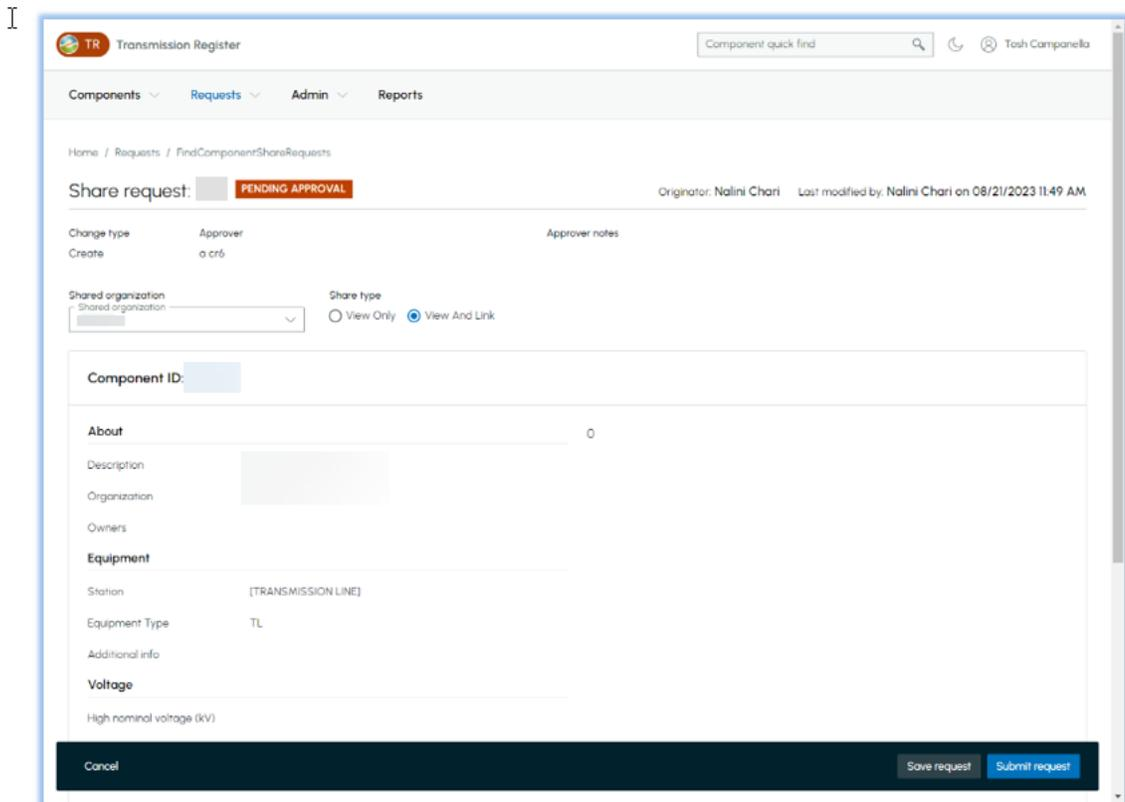
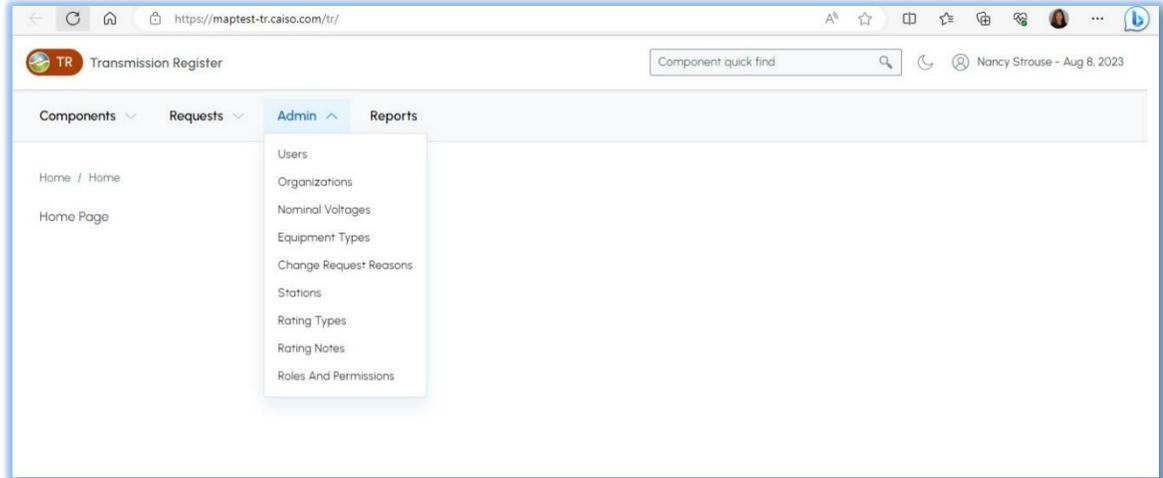
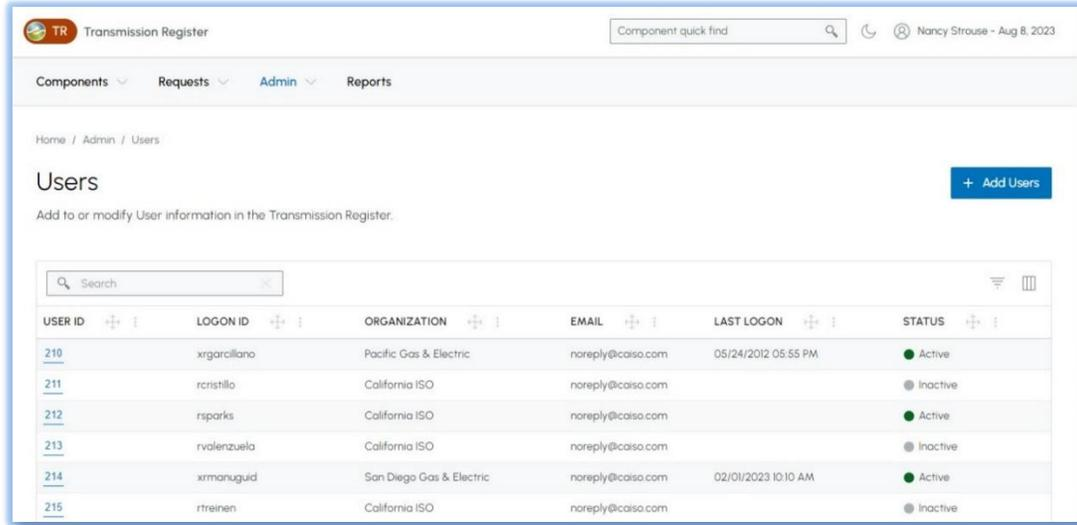

Figure 19 Modify Share Requests Page
Figure 20 Admin Screen
Figure 21 Users Screen
The PTO Administrators can view organization-specific users, and proprietary rating types and rating notes, along with their IDs. By selecting the Admin folder tab, the screen in Figure 20 appears. The following subsections offer steps to view Users, Rating Types, and Rating Notes.
- 1) Click on the Users hyperlink shown in Figure 20 and the screen in Figure 21 loads.
- 1) Click on the Rating Types hyperlink shown in Figure 19 and the screen in Figure 21 loads.